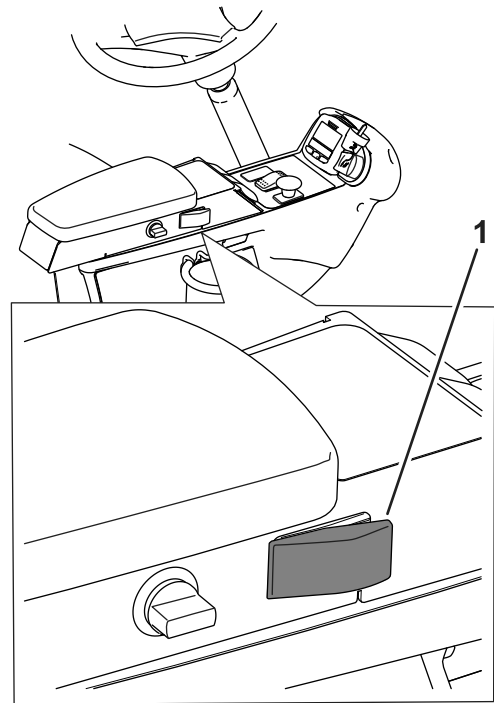
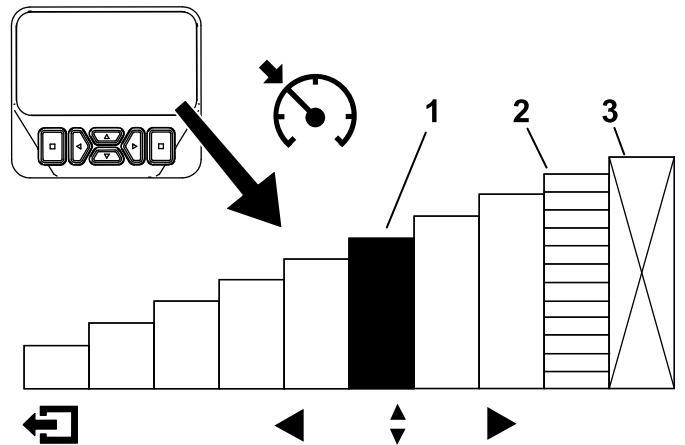

Figure 26
Figure 27
After the cruise control switch is enabled and the speed is set (Figure 26), use the InfoCenter to adjust the speed setting of the cruise control (Figure 6 and Figure 27).
2. Use the InfoCenter display to adjust the speed setting of the cruise control (Figure 27).